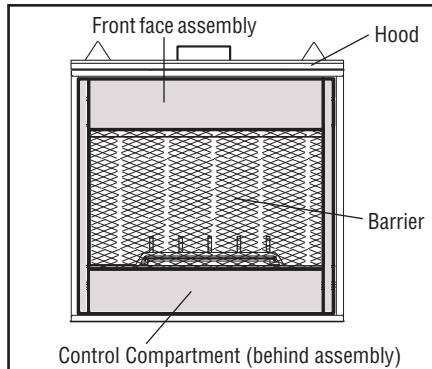

Figure 7 - Unit Parts Identification
2. Remove hood by pulling away from unit (see **Figure 7**).
3. Remove front face assembly and barrier by lifting approximately 1/2" and pulling away from unit (see **Figure 7**).